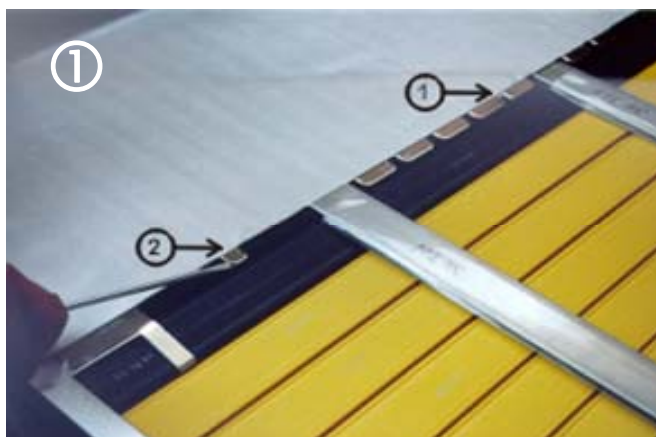

Figure 16 - Maintenance / Contact replacement I
- Lift up PVC profile (4) and pull out damaged contact strip (12) with the cable from the tube (11).
- Introduce new contact strip in the PVC tube and place the contact system correctly. Unsolder the two (or three) tape switches (Figure 16 / page 13).